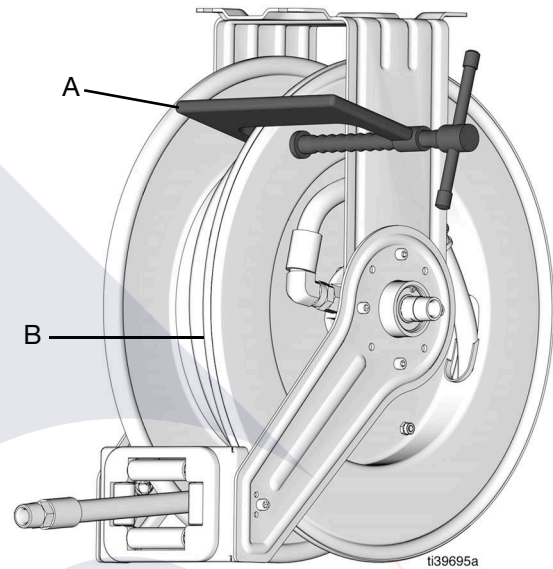

FIG. 12
2. Fully extend the hose (B) and latch the reel (FIG. 12).
3. Attach a C-clamp (A) to the reel flange to prevent the reel from unintentionally becoming unlatched and spinning freely (FIG. 12).
- Remove the C-clamp (A) (FIG. 12).